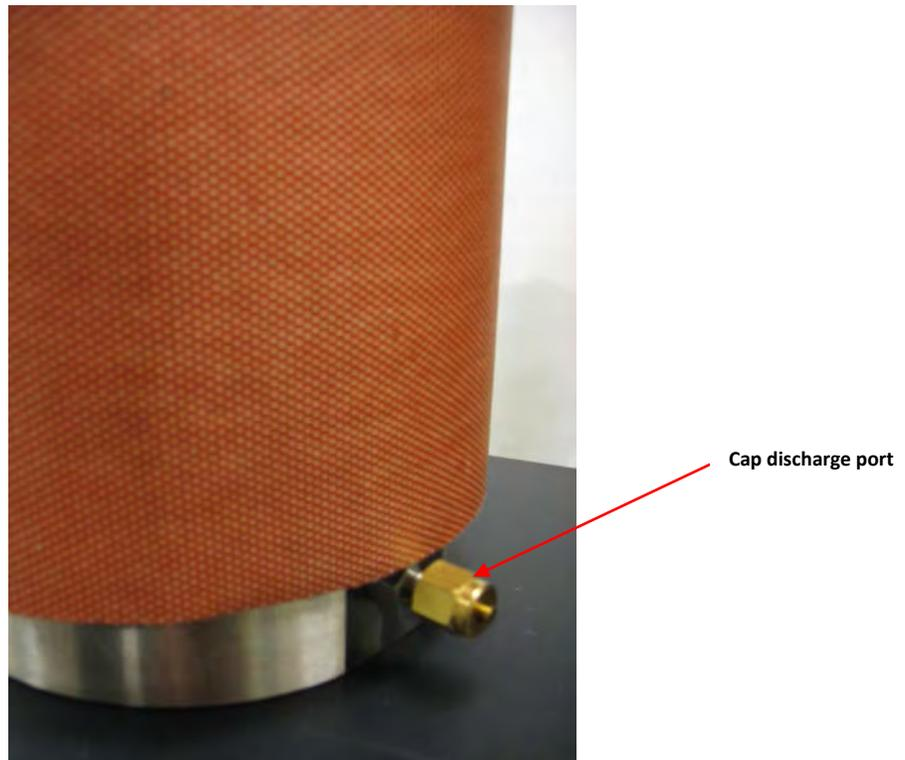

Figure H5 – Cap reservoir #2 discharge port
5. Cap the reservoir #2 discharge port with a cap nut (figure H5) and securely tighten (this will be under pressure during a test).